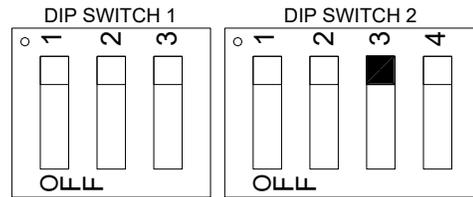

Figure 8
- Single motor direction can be reversed by using DIP switch #2-3 (Figure 8)